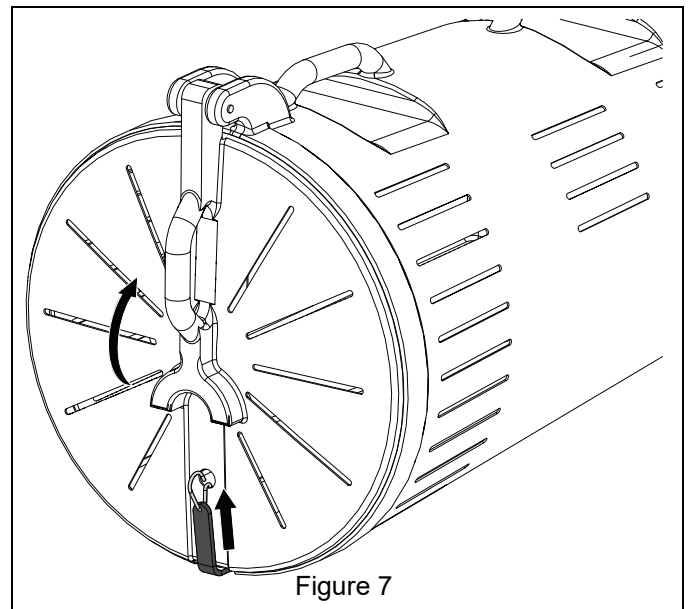

Figure 7
- Pull plunge pin ring and lift grass catcher from deck. See Figure 7